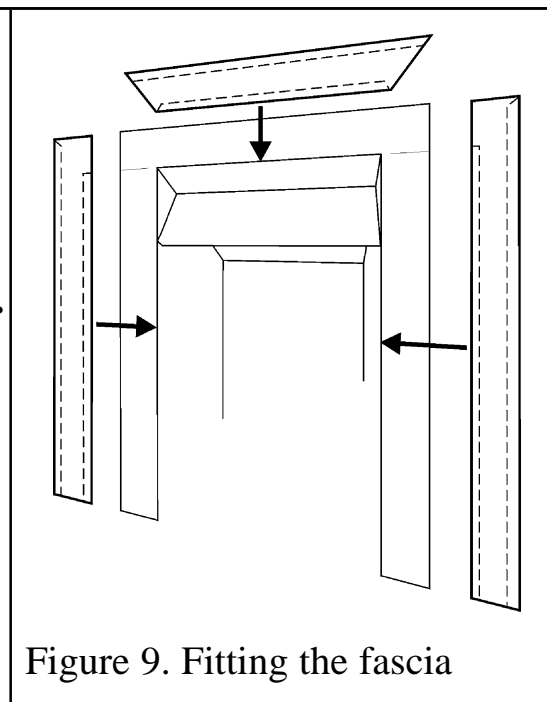

Figure 9. Fitting the fascia
1. The fascia is supplied in three pieces. Remove any protective film. The two longer pieces are the left and right sides. The shorter piece is the top. The left and right hand pieces have folded edges, one of which is shorter than the other. This shortened edge should be fitted at the inner top on both sides. Fit the top piece last and centralise (See figure 9).